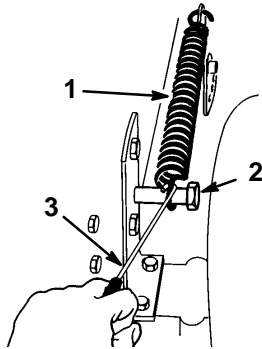

Figure 37
4. Remove the height-of-cut lift assist spring from the retaining bolt (Fig. 37), using the spring tool provided with the machine. The spring is between the frame and the right rear wheel.
13. Move the height-of-cut lever (deck lift) into the "D" notch. Hook lift assist spring onto retaining bolt for storage (Fig. 37).